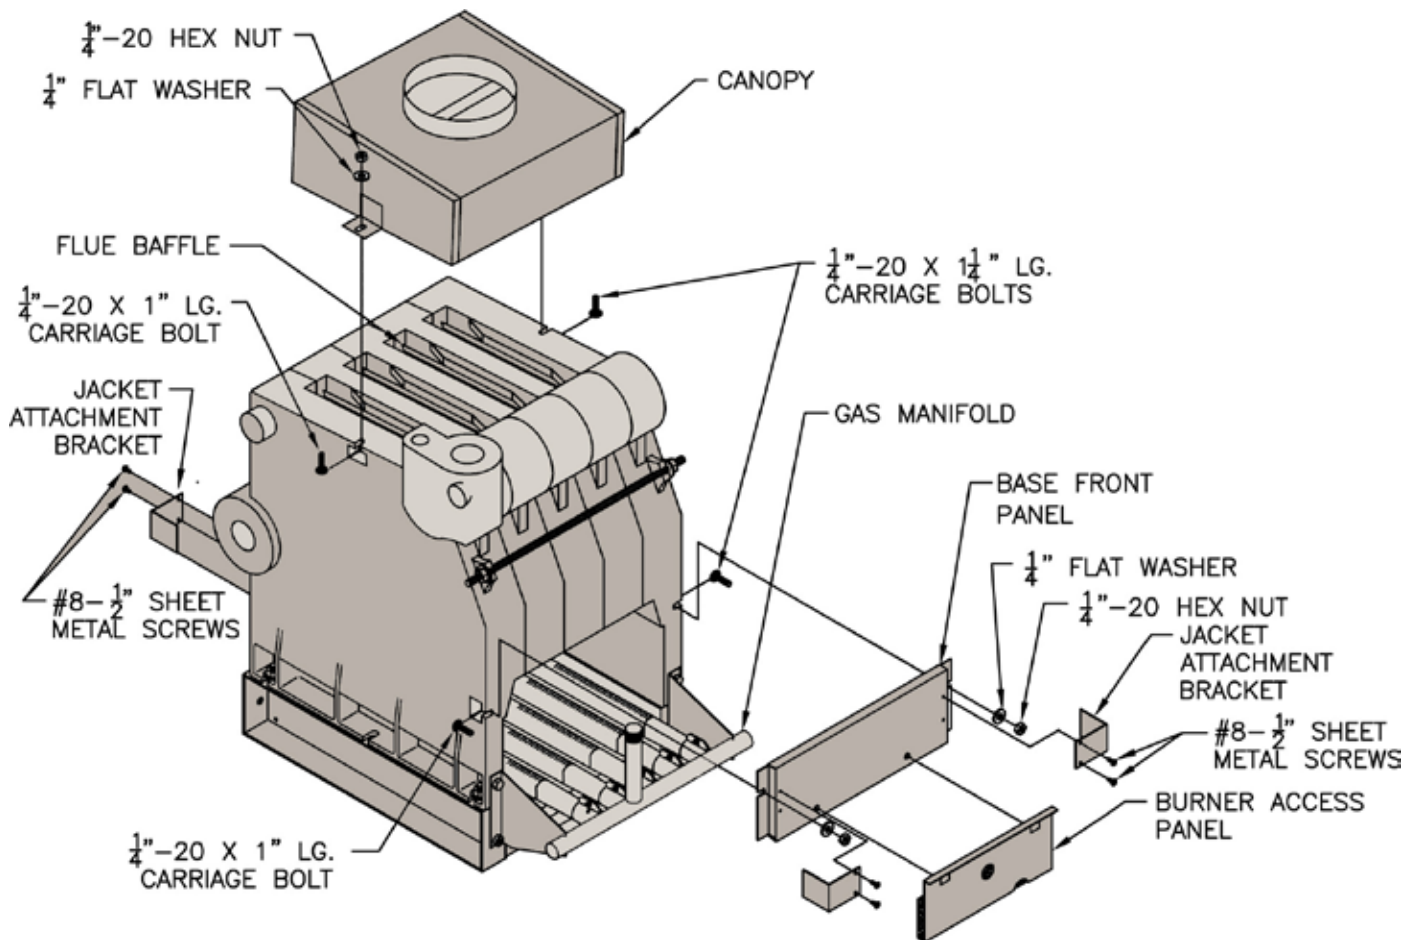
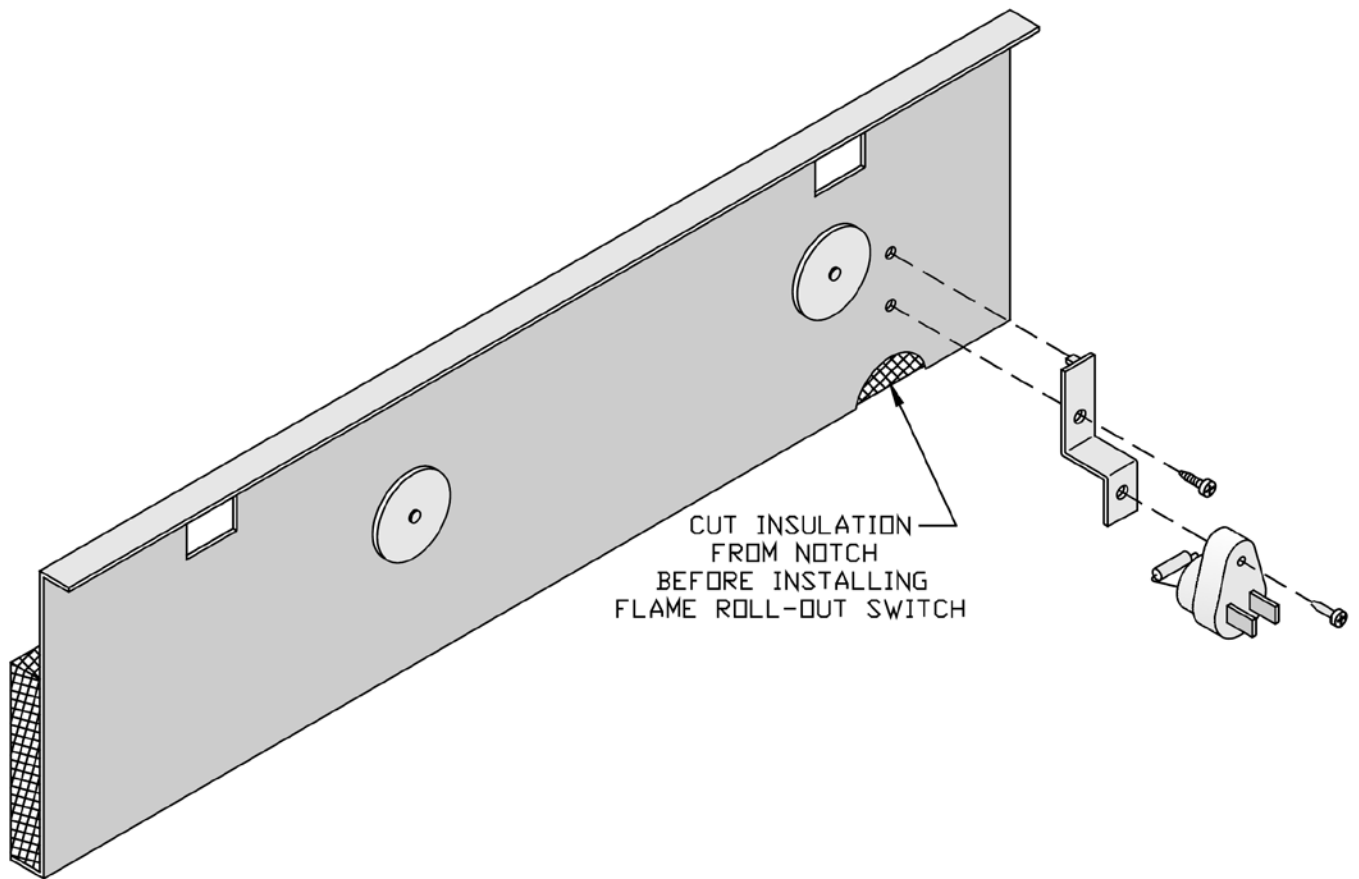
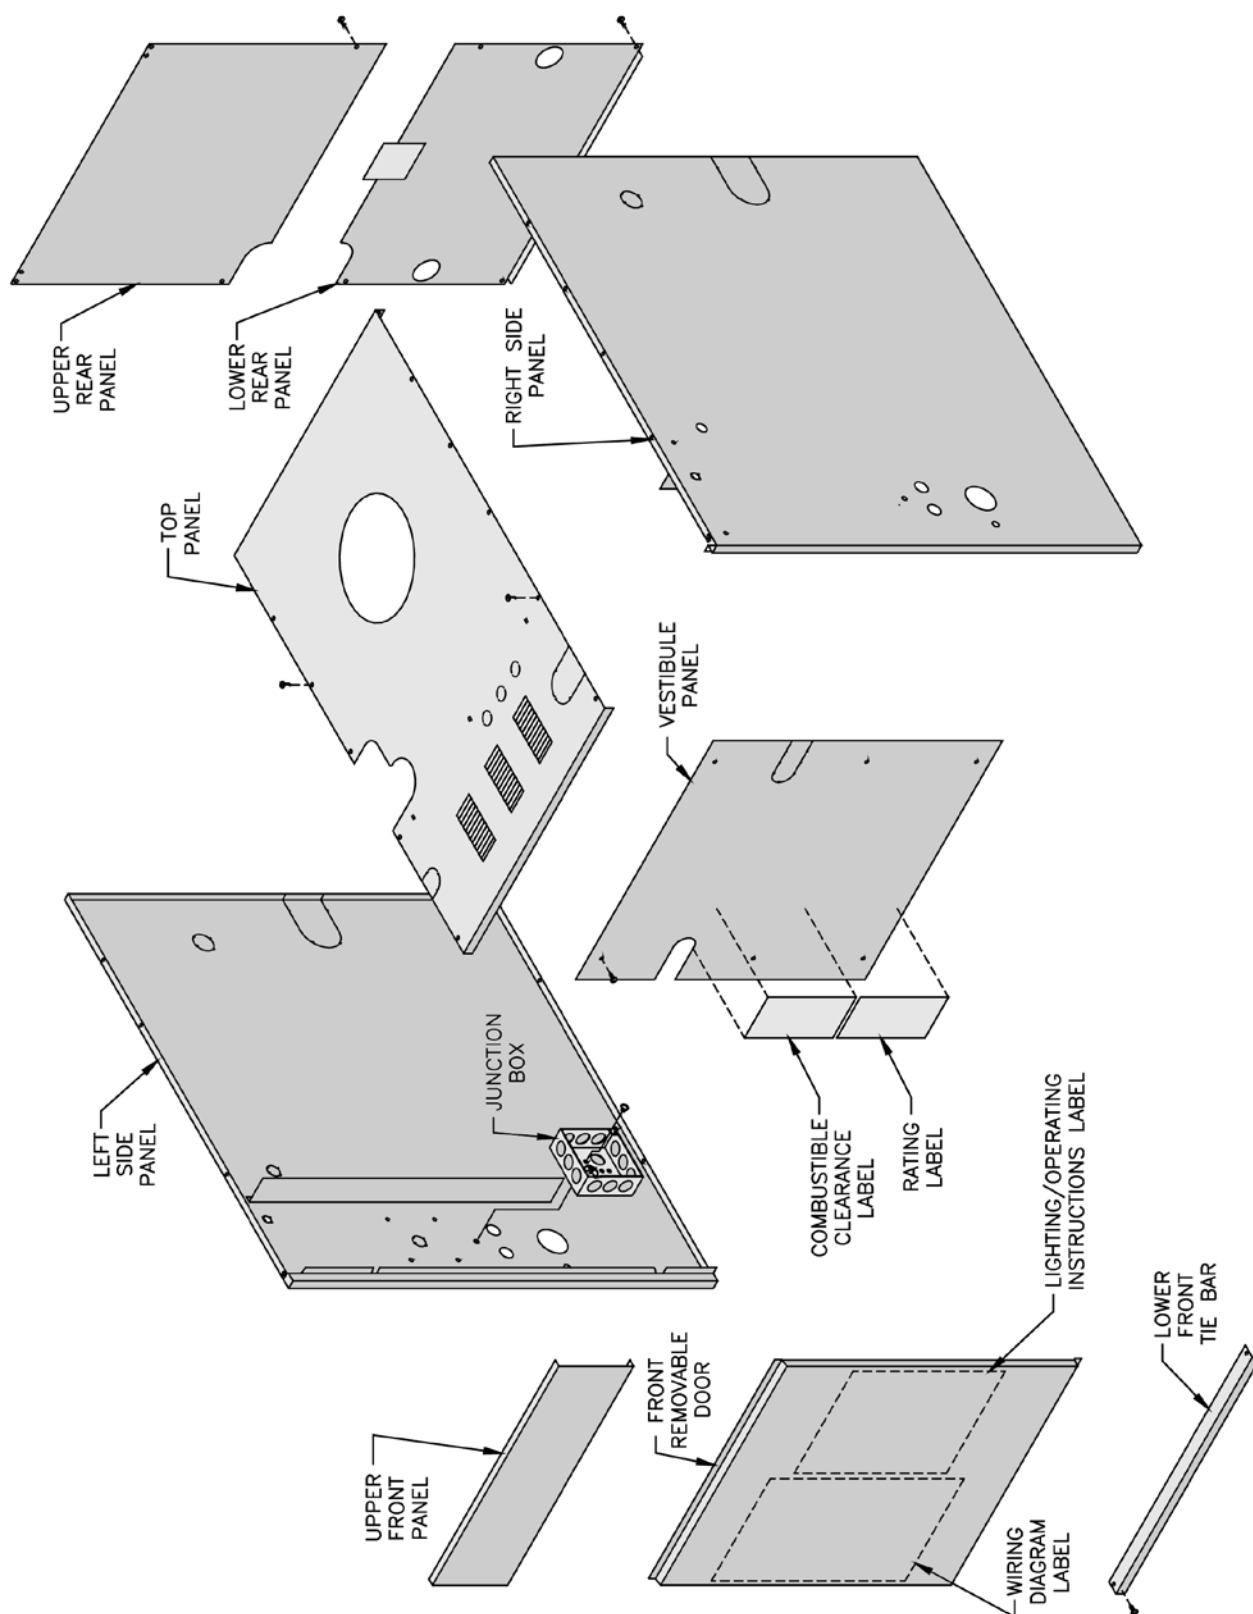

Figure 5: General Assembly (Knockdown Boilers)
Figure 6: Flame Roll-out Switch Installation
Figure 8: Jacket Assembly
G. Confirm that one (1) Flue Baffle is properly positioned in each Boiler Flueway. Tabs at the top of each Flue Baffle should be resting on top row of Flue Pins on each adjoining section.
H. Install Canopy on section assembly. See Figure 5. Canopy and hardware are located in Combination Boiler Parts and Control Carton.
J. Install Base Front Panel. See Figure 5. Panel and hardware located in Combination Boiler Parts and Control Carton.
M. Attach Flame Roll-out Switch to Burner Access Panel. See Figure 6. Flame Roll-out Switch and hardware are located in Combination Boiler Parts and Control Carton. Flame Roll-out Switch is a single use device - do not test with heat - switch cannot be reset.
1. Cut insulation from semicircular notch at right end of the burner access panel. Models 808HE - 810HE have two (2) burner access panels. Remove insulation from notch of right side burner access panel only.
2. Attach Flame Roll-out Switch Mounting Bracket to burner access panel with (1) #8 x ½" lg. sheet metal screw.
3. Attach Flame Roll-out Switch to mounting bracket with (1) #8 x ¾" lg. sheet metal screw.
N. Install Burner Access Panel(s). Locate Burner Access Panel(s) in Combination Boiler Parts and Control Carton. Engage Burner Access Panel holes with projections on Base Front Panel. See Figure 5.
P. Install Jacket. See Figure 8.
1. Locate four (4) Jacket Attachment Brackets in Combination Boiler Parts and Control Carton. Attach to Front Base Panel and Rear Base Panels with #8 sheet metal screws. See Figure 5.
4. Attach Upper Rear Panel to Lower Rear Panel. Do not install three (3) upper screws.
Q. Install Junction Box. See Figure 8. Attach junction box to inside of Left Side Panel with ¼" - 20 x ¼" lg. machine screw (located in Combination Boiler Parts and Control Carton).
- a. Attach Ignition Control Mounting Bracket to Jacket Vestibule Panel using two (2) #8 x 1/2" sheet metal screws.
- b. Attach Honeywell Ignition Module to Mounting Bracket using two (2) #8 x 1/2" sheet metal screws.
4. Mount Transformer (continuous circulation) or Control Center (intermittent circulation) to Junction Box. See Figure 8.